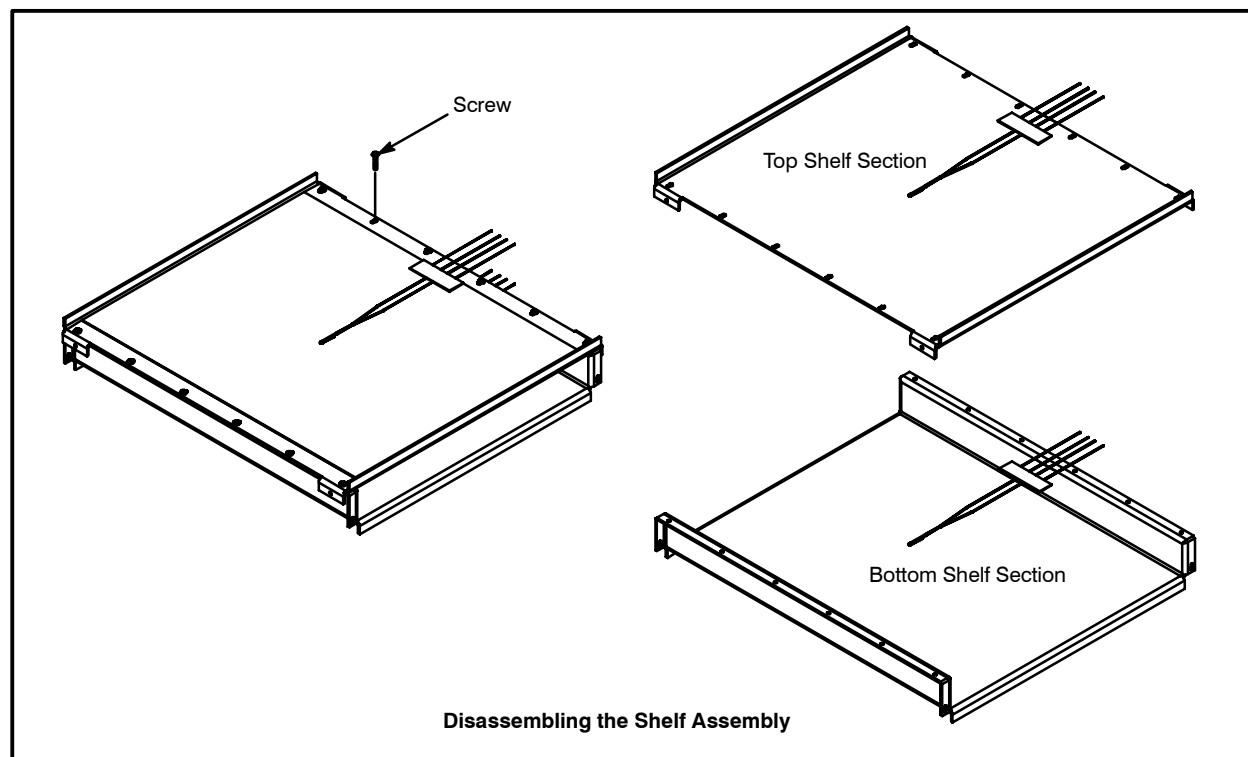

FIGURE 1
13. Remove the twelve phillips head screws from the top shelf section. See FIGURE 1.